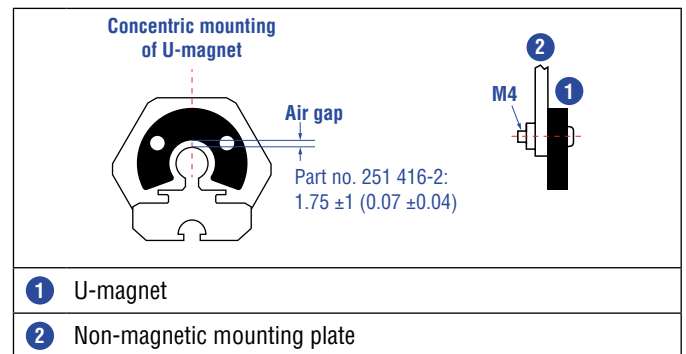
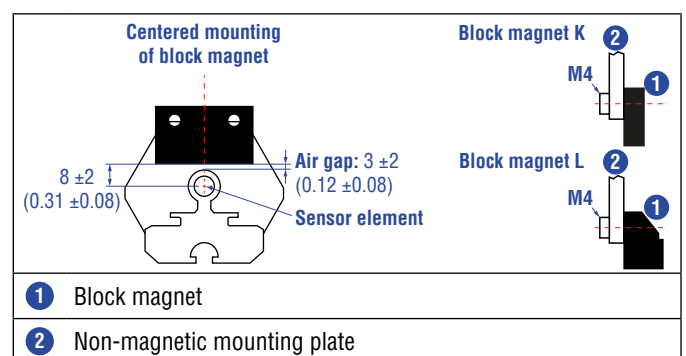

Fig. 68: Mounting of U-magnet (part no. 251 416-2)
Fig. 69: Mounting of block magnet (part no. 403 448)
- Mount block magnets centrically over the sensor rod or the sensor profile. The maximum permissible air gap must not be exceeded (Fig. 68/ Fig. 69).